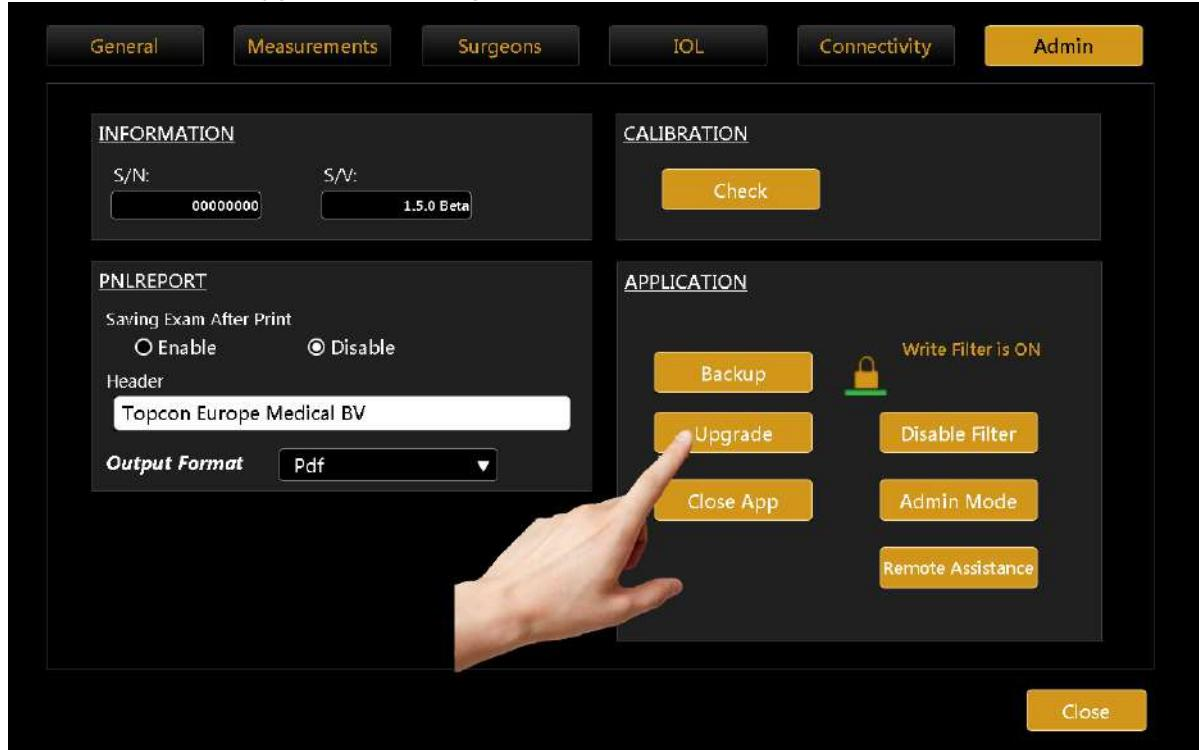

Figure 97
7. Click on the "Upgrade" button (Figure 97).